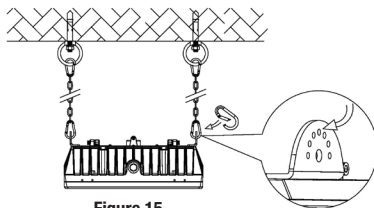
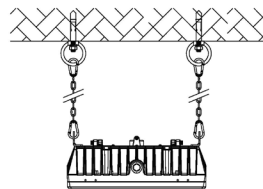

Figure 15
Figure 16
2. Hang the fixture into the lifting hook or chain. (Figure 15) (Figure 16).